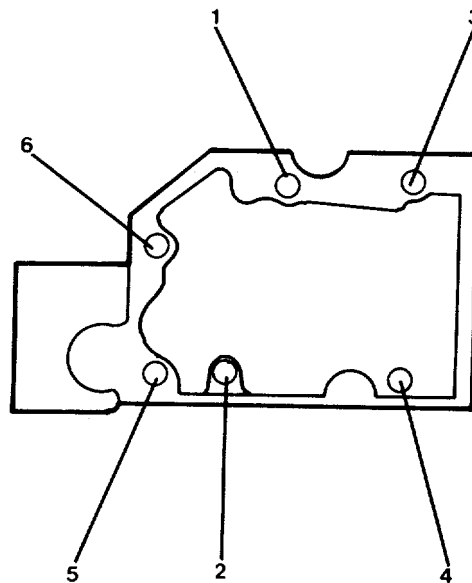

FIGURE 2-32. Rocker Lever Housing Tightening Sequence.
(3) Install six flat washers (26) and hexagon head capscrews (24 and 27). Tighten to 65 ft-lb. (88 Nm) using the sequence shown in FIG. 2-32.